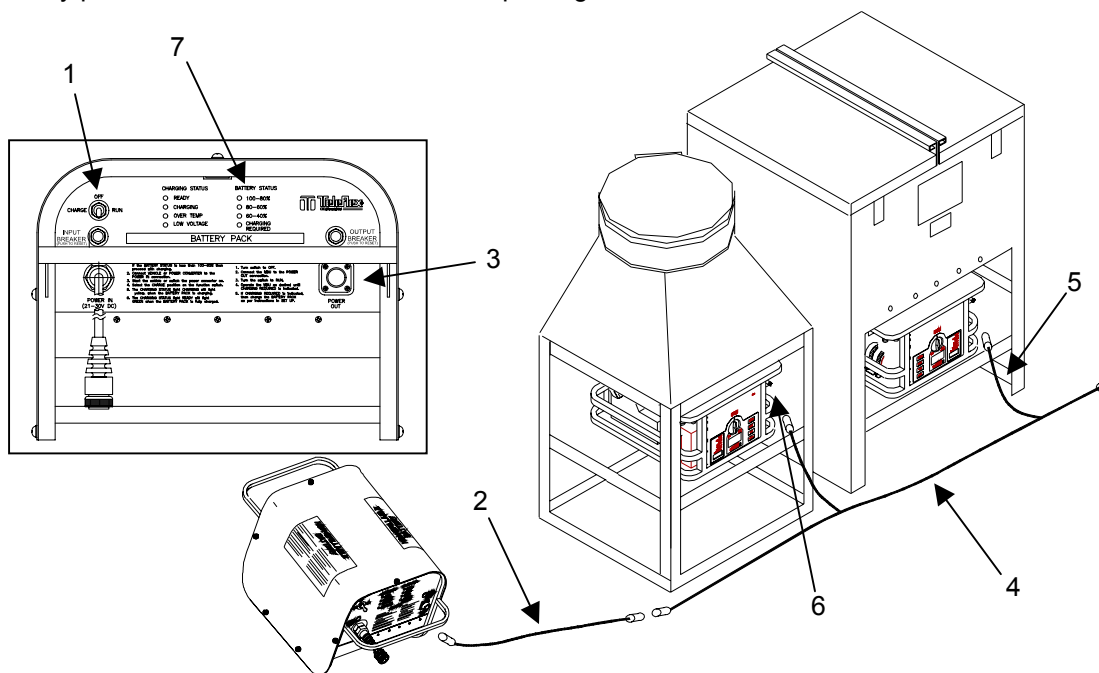

Figure 7. Connecting Power Cables Using The Battery Pack Alone
1. With the Battery Pack 3-Position Function Switch (**figure 7, item 1**) in the OFF position, connect one end of the 25-ft Extension Cable (if used for additional length) (**figure 7, item 2**) to the Battery Pack Power Output Connector (**figure 7, item 3**).
2. Connect the opposite end of the 25-ft Extension Cable (**figure 7, item 2**) to one end of a 2-Branch power cable (**figure 7, item 4**).
3. If the Extension Cable (**figure 7, item 2**) is not used, connect one end of the branch cable (**figure 7, item 4**) directly to the Power Output Connector (**figure 7, item 3**) of the Battery Pack.
4. Connect the cable branches (**figure 7, item 5**) to the power-in receptacles (**figure 7, item 6**) of the individual burners.
5. In order to recharge the batteries a 24VDC power source, such as a vehicle or power converter, should be made available during operation of the MBU's. When the battery pack is used as the power source to operate the MBUs, the charge indicator lights (**figure 7, item 7**) should be checked frequently to monitor the condition of the batteries. To recharge the batteries, connect the 25-ft NATO Adapter cable to a vehicle equipped with a NATO connector and the power-in connector on the battery pack as described later in this work package.